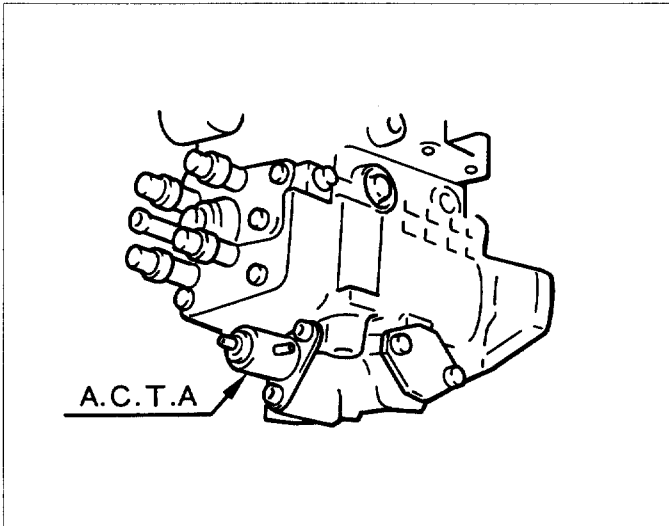

Fig.9-21 External view of A.C.T.A.
(2) Construction
A.C.T.A. is mounted at the bottom of the pump next to the timer. (See Fig.9-21)